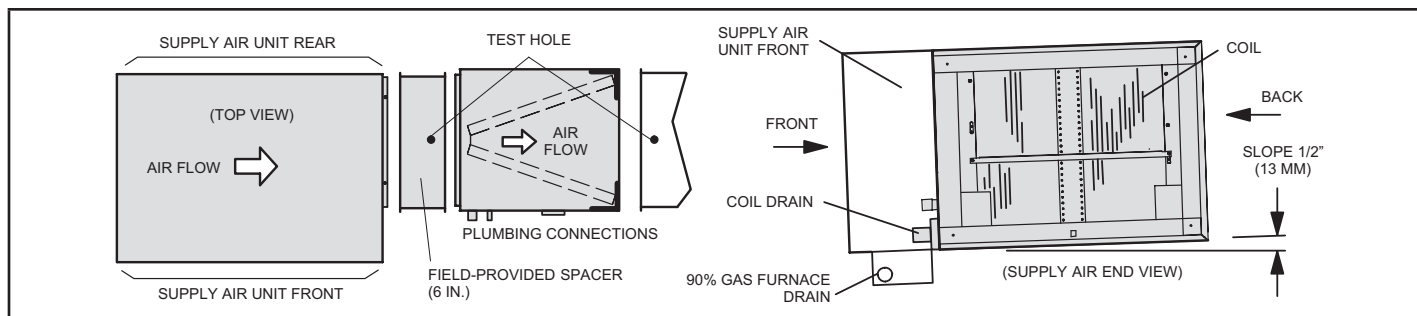

FIGURE 5. Right-Hand Air Discharge with Spacer
- 2 - **Right-Hand Air Discharge with Field-Provided Spacer** – The coil must have a 1/2" slope from the rear of the cabinet to the drain. Position the coil in the left-to-right configuration on the service access side of the furnace. Insert a field-provided spacer between the furnace and the coil. Use field-provided screws to secure the coil casing, spacer and the furnace together. The spacer should be long enough to allow room for proper installation (approximately 6 inches minimum). See figure 5.
Connect the properly-sized field-provided liquid line to the liquid line stub as shown in figure 5 using the following procedures: